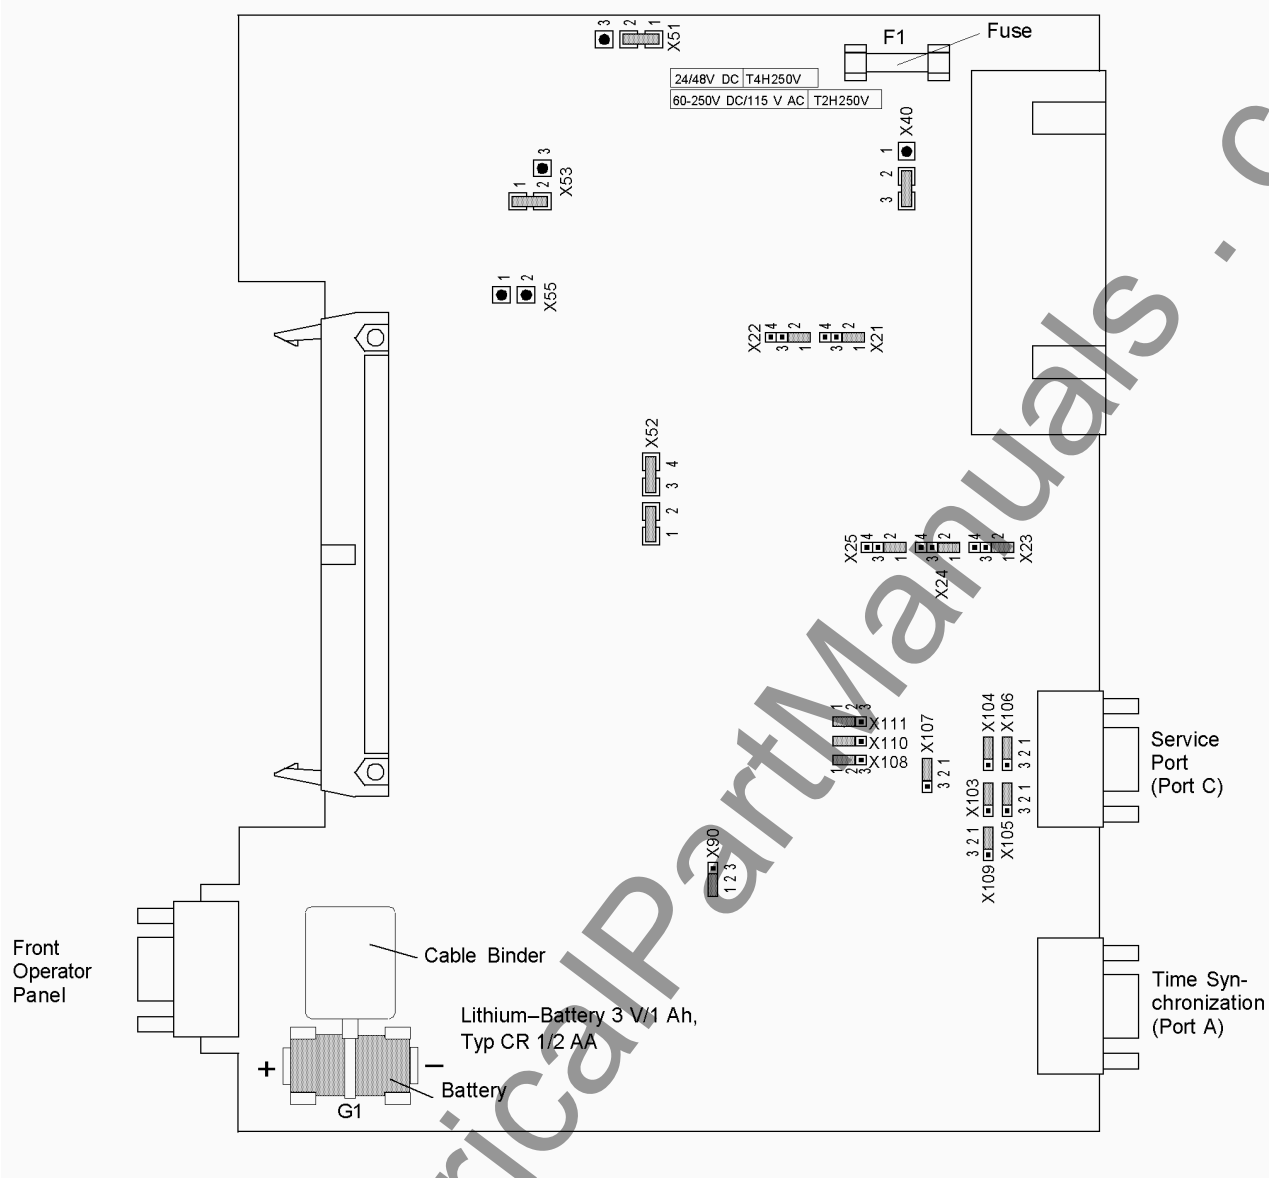

Figure 3-7 Processor printed circuit board C-CPU-2 with jumpers settings required for the board configuration
- Check the jumpers according to Figures 3-7 to 3-13, 3-16, 3-17 and the following information. Change or remove the jumpers if necessary.